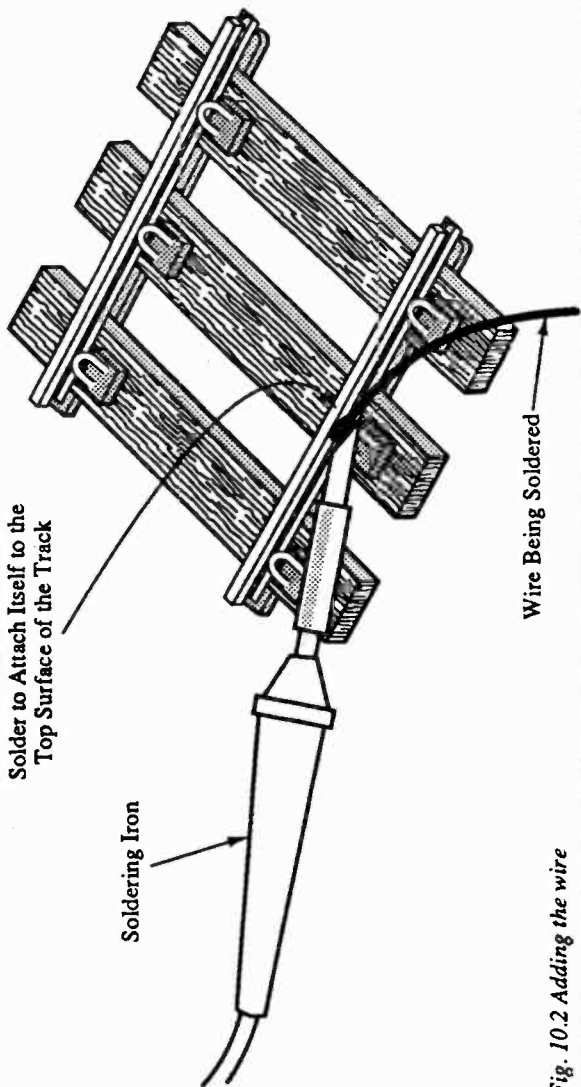

Fig. 10.2 Adding the wire
- (iv) Lay the tinned wire along the tinned rail, but before soldering it to the rail check that the position of the wire will not foul the track. Apply the soldering iron bit to the wire (Figure 10.2) and watch the solder melt on both the wire and the track. This should happen fairly quickly. If it does not then you should be using a bigger soldering iron or bit.